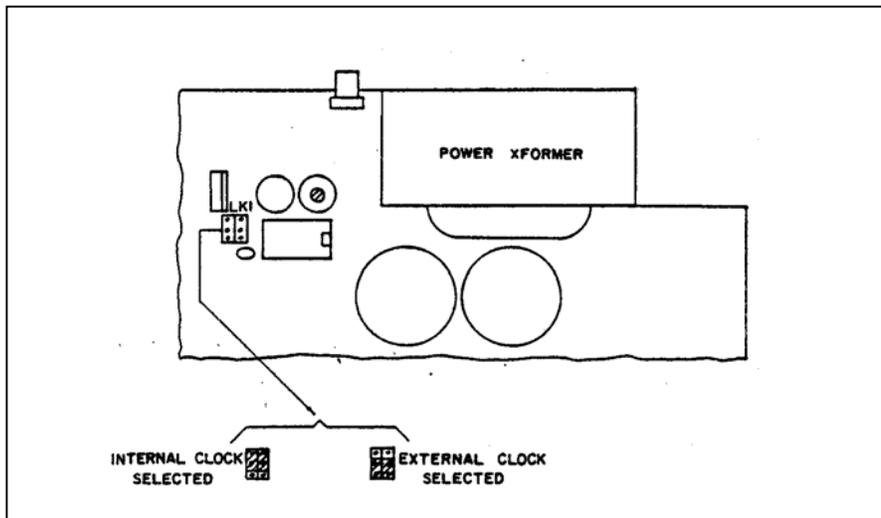

Figure 5-4. External/Internal time base clock selection
2. Refer to Figure 5-4 and locate LK1 at the rear of the instrument near the power transformer.